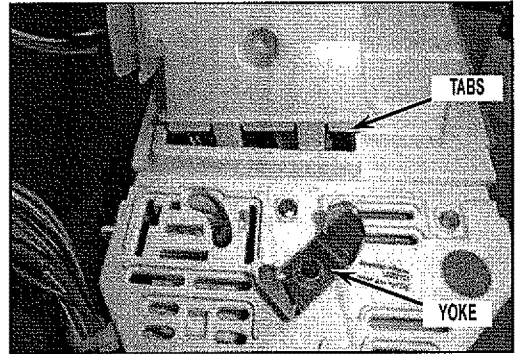

FIGURE 17
19. Lay auger on a flat surface and snap new impinger in place (impinger tabs should face auger yoke assembly as shown). See *Figure 17*.